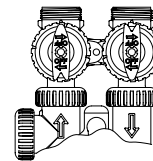

figure 1
3. Attach the bypass to the unit. (see figure 1)
1. Normal Operation Position: The inlet and outlet handles point in the direction of flow indicated by the engraved arrows on the control valve. Water flows through the control valve during normal operation and this position also allows the control valve to isolate the media bed during the regeneration cycle. (see figure 1)